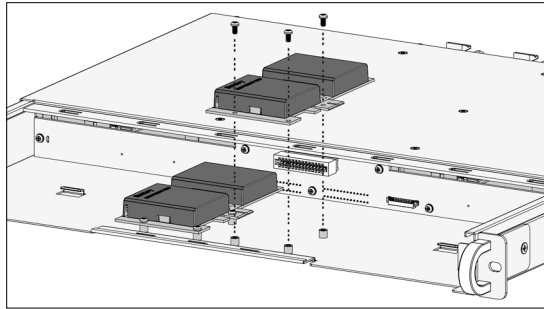

Figure B-6, Installing the FBM module
3. Use three screws that are provided to secure the FBM module onto the enclosure, as shown in Figure B-6.